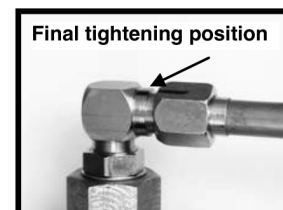

Fig.22 Mark final tightening position
6. Mark final tightening position on fitting by extending the existing mark from the nut to the adjacent fitting surface. See Fig.22.